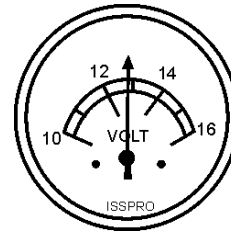

Figure 66. Battery Voltage Gauge
11. The battery voltage gauge (Figure 66) will indicate the voltage of the battery when the generator is operating. Under normal operating conditions this voltage is between 11.2 and 15.2 volts.